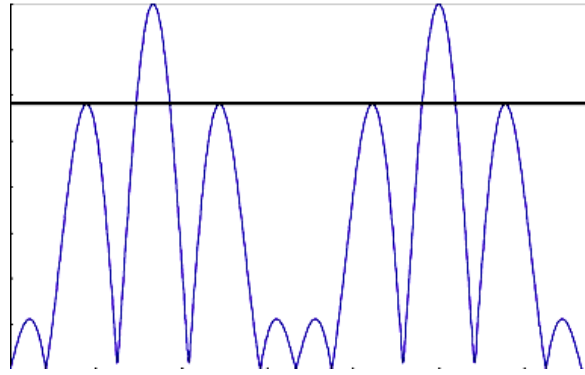

Figure 4 - SBO Waveform (Five-Finger Pattern)
- Check for the correct five-finger pattern (see Figure 4)